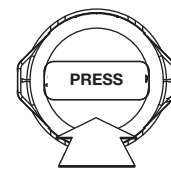

Fig. 22
- Replace the bump cap by aligning the tabs of the bump cap with the tab lock windows of the outer spool and press down firmly until both tabs snap back into place. (Fig. 22)